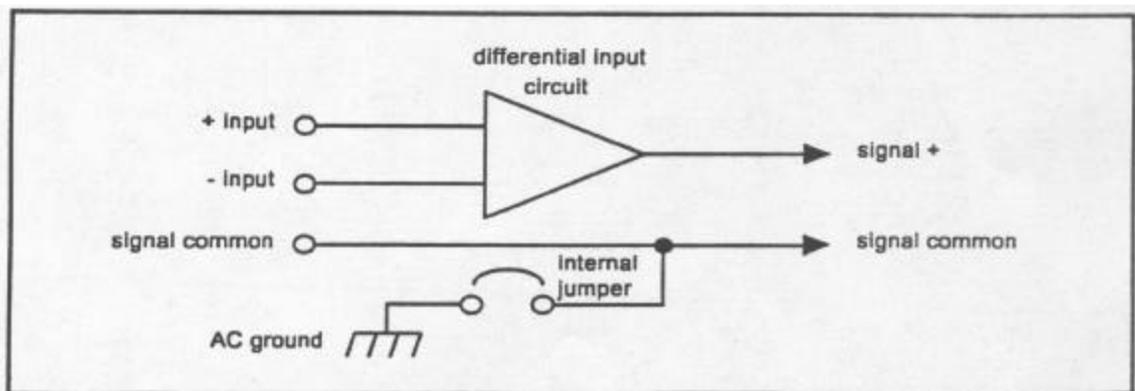

Figure 1 - *Input Connections*
3. Connect the input channel(s) for either balanced or unbalanced operation, paying careful attention to the connections shown in Figure 1. Note: For unbalanced operation, audio negative must be connected to signal common, otherwise a 6 dB loss in signal level will result.